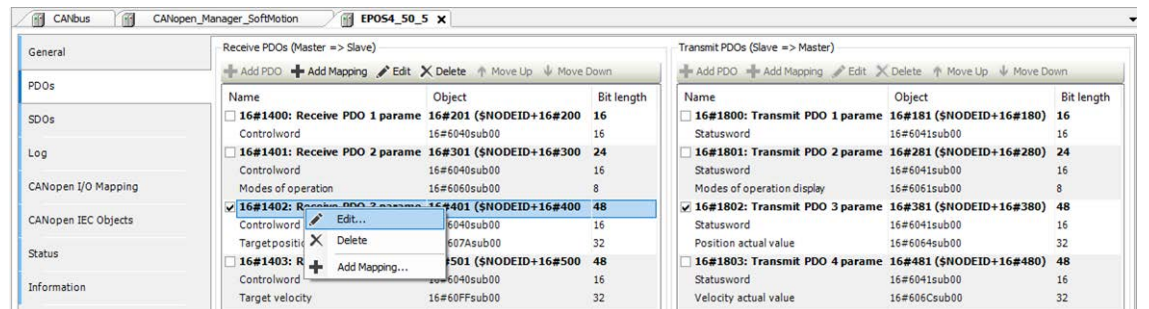

Figure 6-59 CANopen integration CODESYS | Open PDO properties window with Edit
- 2) Open the PDO properties window with «Edit...» (see → Figure 6-59).